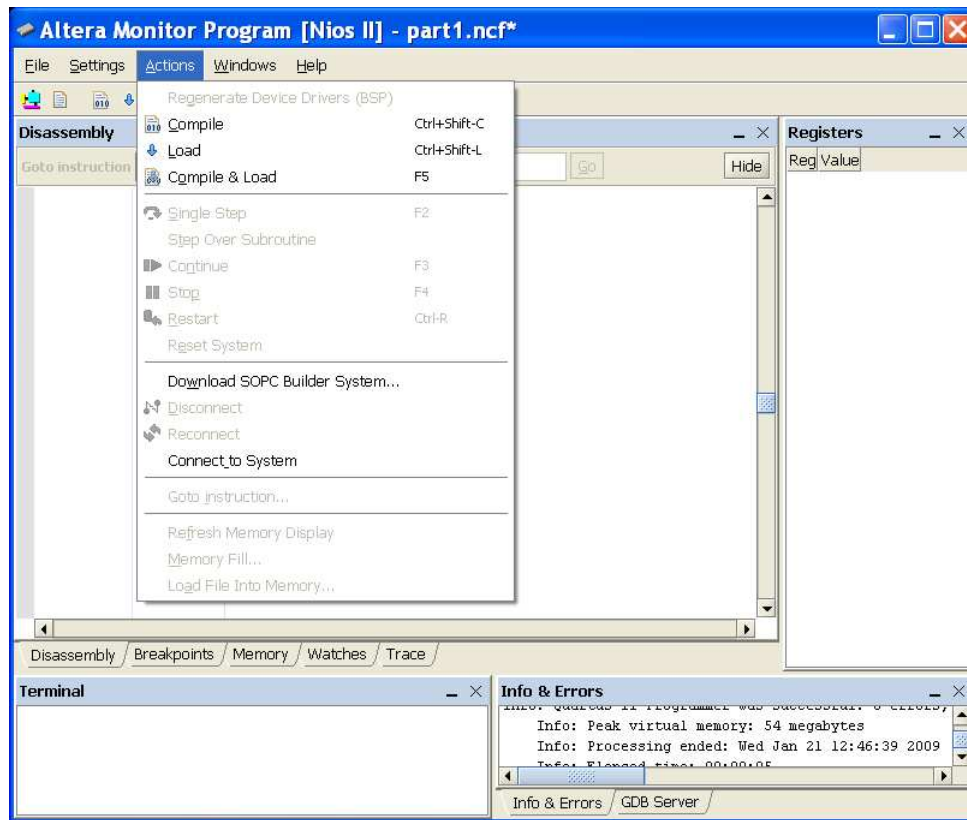
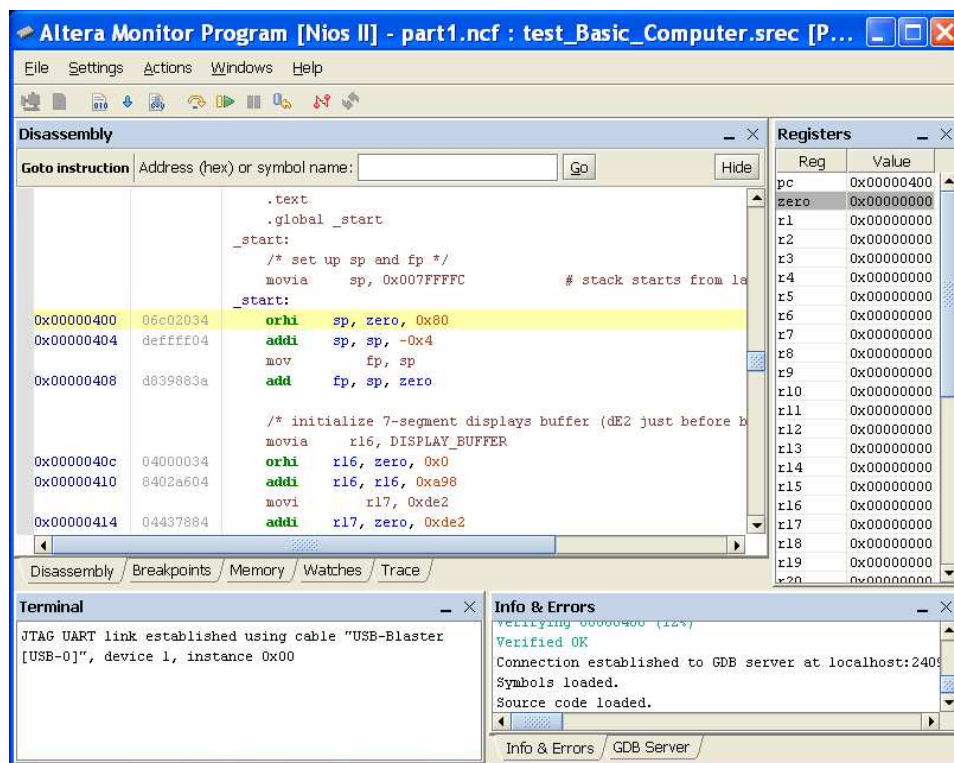

Figure 8. Specify an action in the monitor window.
Figure 9. The monitor window showing the loaded sample program.
9. Having downloaded the DE2 Basic Computer into the FPGA chip on the DE2 board, we can now load and run programs on this computer. In the main monitor window, shown in Figure 8, select **Actions > Compile & Load** to load the selected sample program into the FPGA chip. Figure 9 shows the monitor window after the sample program has been loaded.